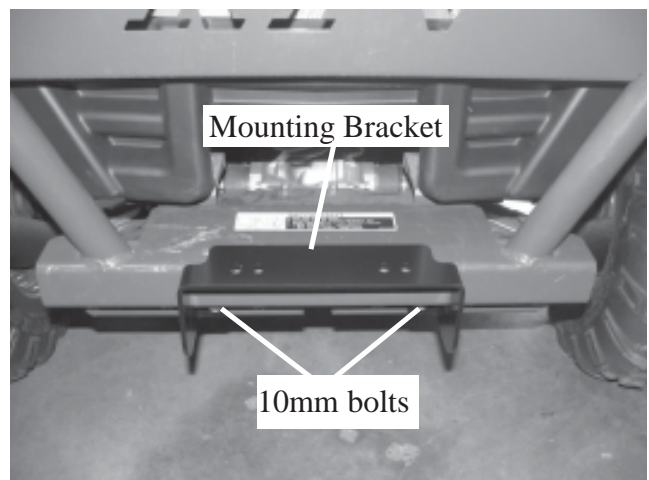

Figure 3
3. Fasten the mounting bracket using the two inner 12mm bumper bolts, Figure 3.